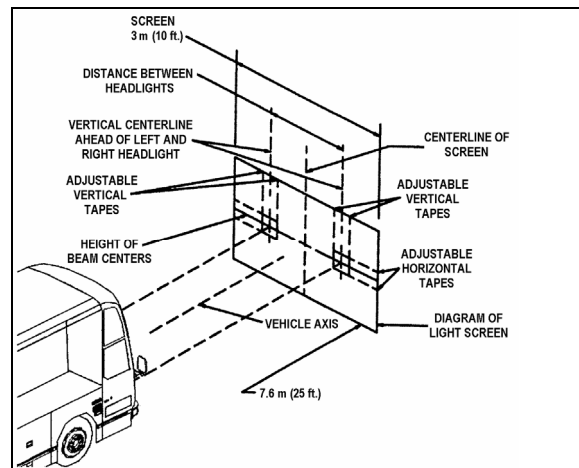

FIGURE 26: ALIGNMENT OF HEADLIGHT AIMING SCREEN 06502
3. The headlight centerlines shall be spaced either side of the fixed centerline on the screen by 1/2 the lateral distance between the light source centers of the pertinent headlights. The horizontal tapes should be located on the screen at the upper and lower limits called for in the specification with reference to the height of beam centers and the plane on which the vehicle rests, not the floor on which the screen rests (Fig. 26).
5. High beam headlights are aimed so that the center of the high-intensity zone is located at the horizontal and straight ahead vertically (Fig. 26).